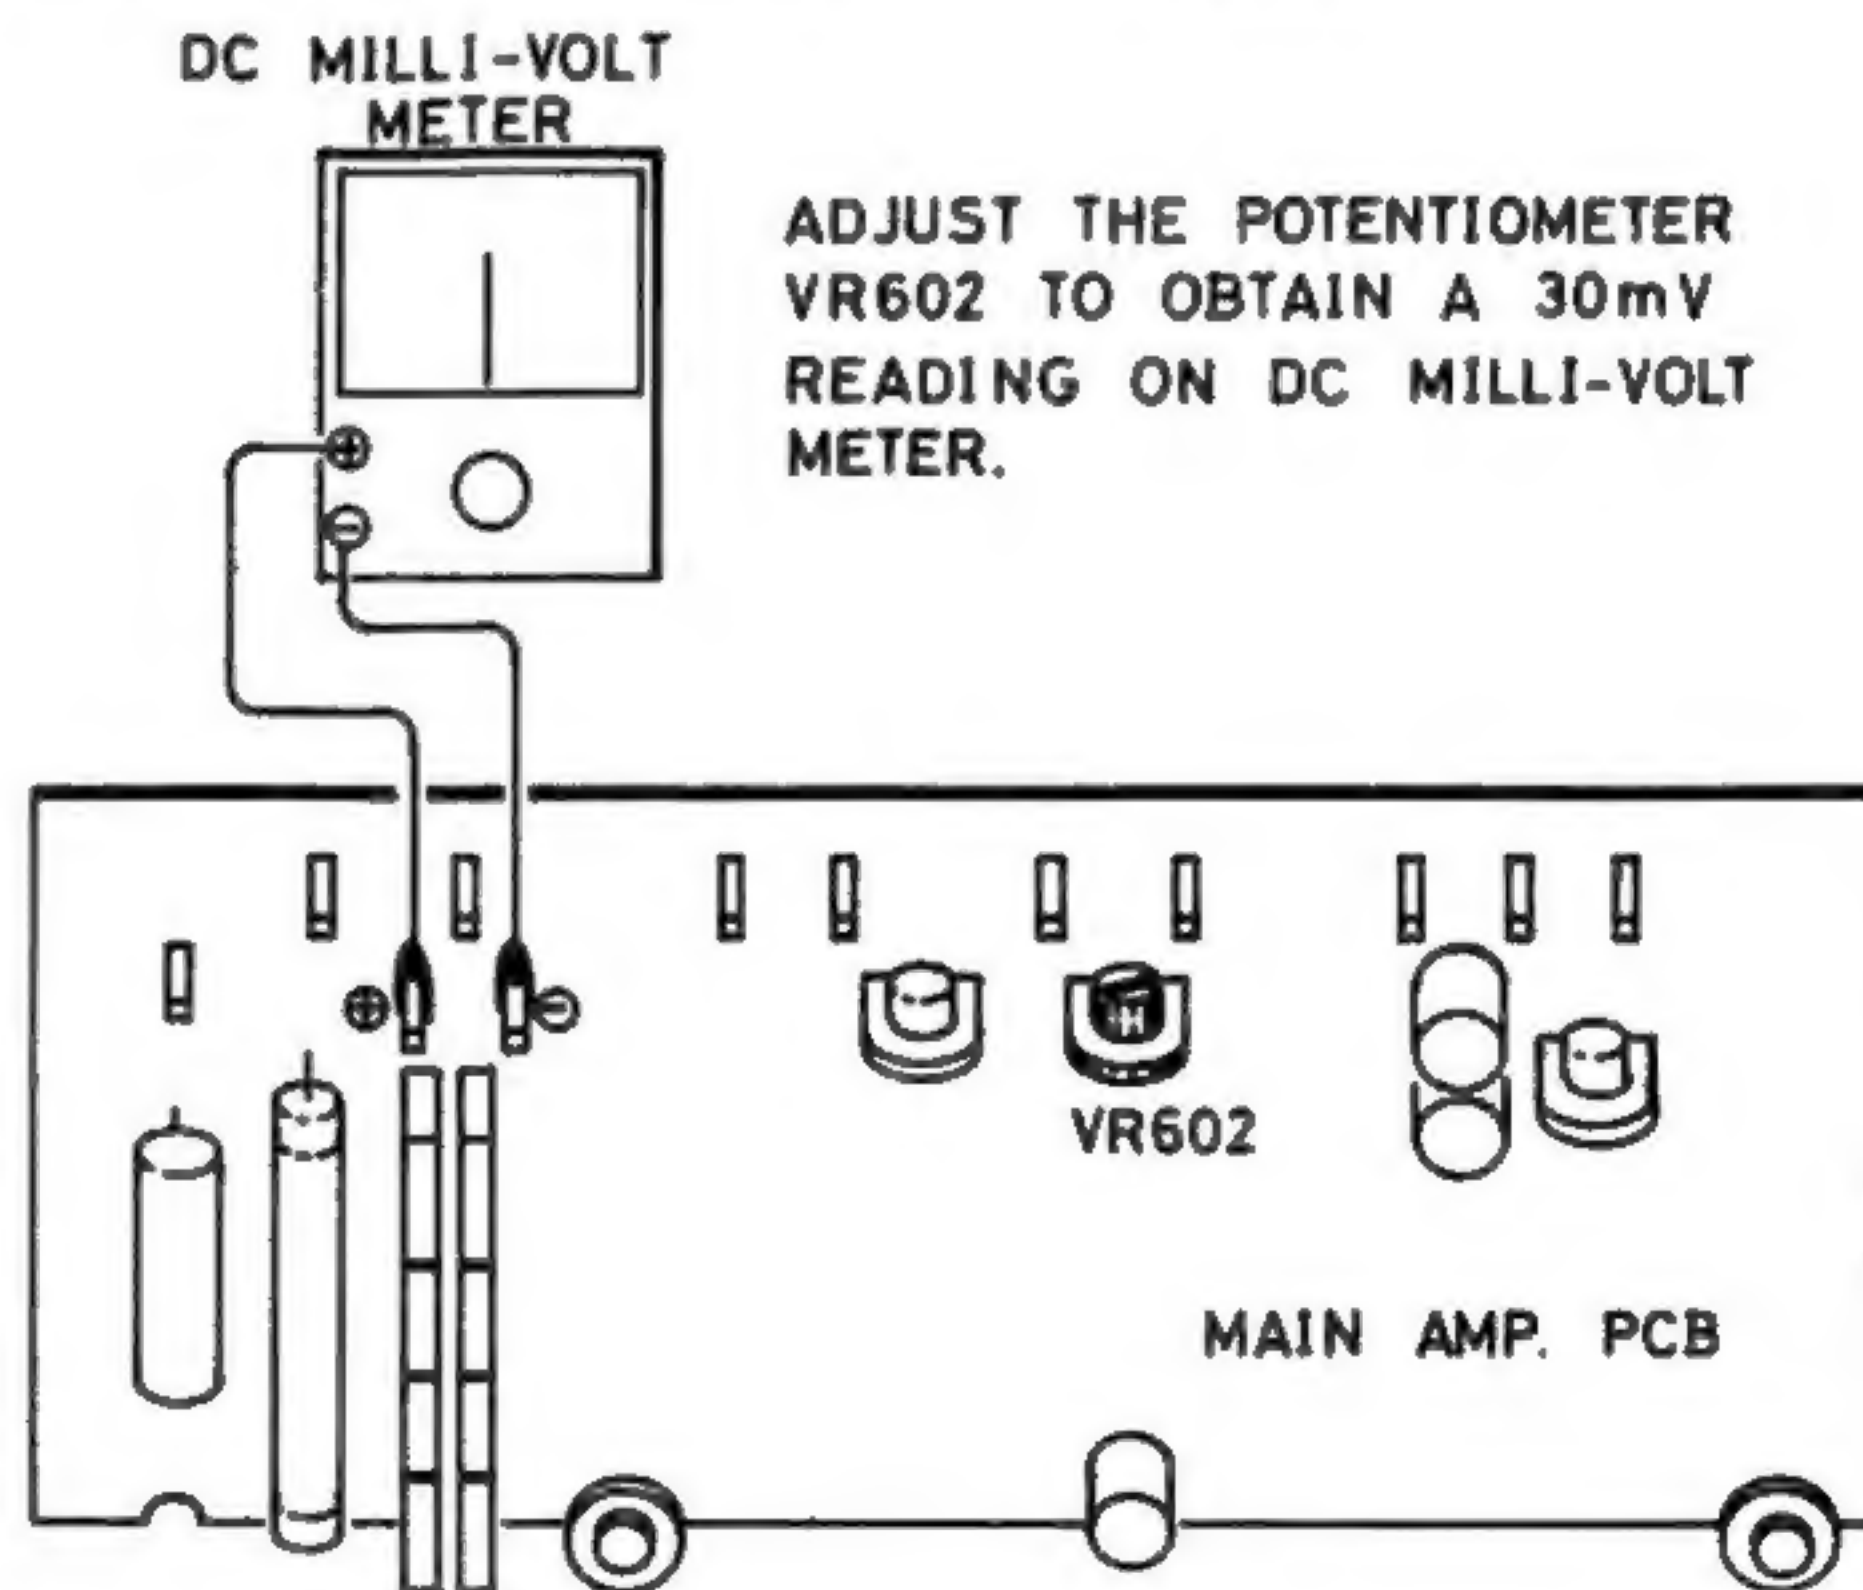

Fig.3 BIAS ADJUSTMENT HOOK-UP
- b. Connect DC millivolt meter to Test pin of Main Amp PCB See Fig. 3.